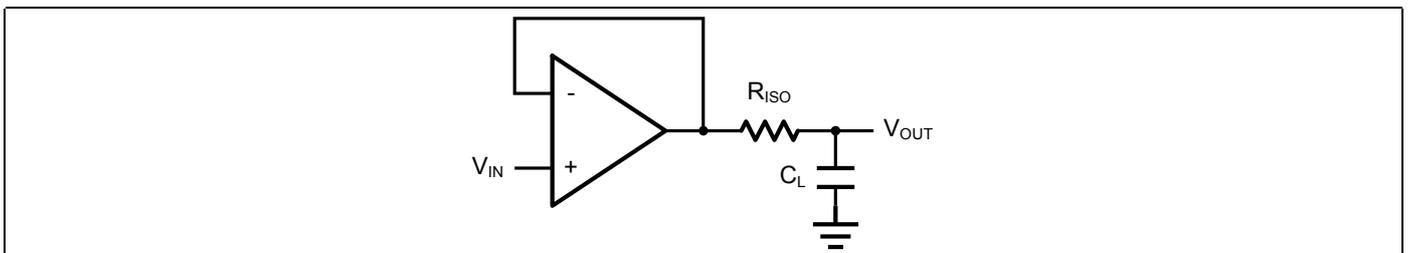
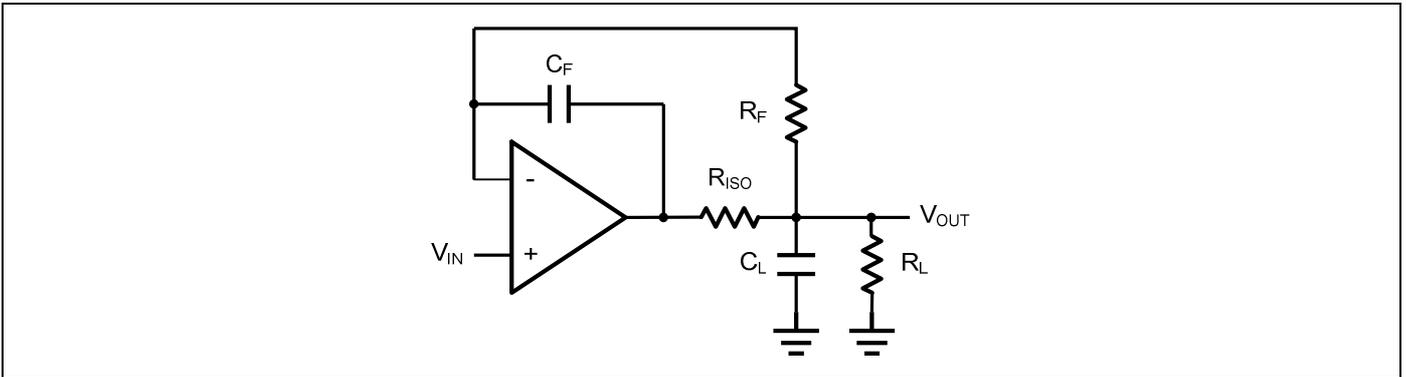

Figure 2. Indirectly Driving a Capacitive Load Using Isolation Resistor
Figure 3. Indirectly Driving a Capacitive Load with DC Accuracy
The HM804X family is optimized for bandwidth and speed, not for driving capacitive loads. Output capacitance will create a pole in the amplifier's feedback path, leading to excessive peaking and potential oscillation. If dealing with load capacitance is a requirement of the application, the two strategies to consider are (1) using a small resistor in series with the amplifier's output and the load capacitance and (2) reducing the bandwidth of the amplifier's feedback loop by increasing the overall noise gain. Figure 2. shows a unity gain follower using the series resistor strategy. The resistor isolates the output from the capacitance and, more importantly, creates a zero in the feedback path that compensates for the pole created by the output capacitance.
The circuit in Figure 3 is an improvement to the one in Figure 2. R_F provides the DC accuracy by feed-forward the V_{IN} to R_L . C_F and R_{ISO} serve to counteract the loss of phase margin by feeding the high frequency component of the output signal back to the amplifier's inverting input, thereby preserving the phase margin in the overall feedback loop. Capacitive drive can be increased by increasing the value of C_F . This in turn will slow down the pulse response.